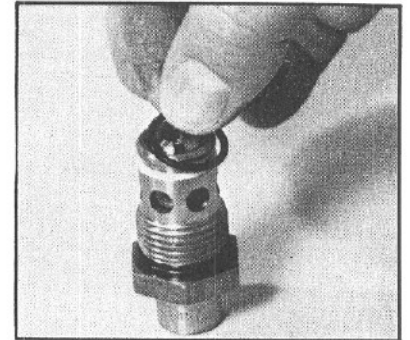

Figure 130
28. If your gear is equipped with a relief valve (9A), then assemble the new O-ring (9B), the new Teflon seal ring (9C), and the new O-ring (9D) onto the relief valve (FIG. 130). Install the relief valve into the valve housing (9) and torque it to 25-35 ft. lbs.